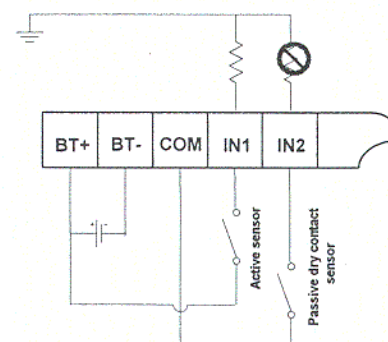

Figure 2: Sensors Connections
3. Connect the battery to J1: red wire (+) to contact 1, black wire (-) to contact 2 (see Figure 2).